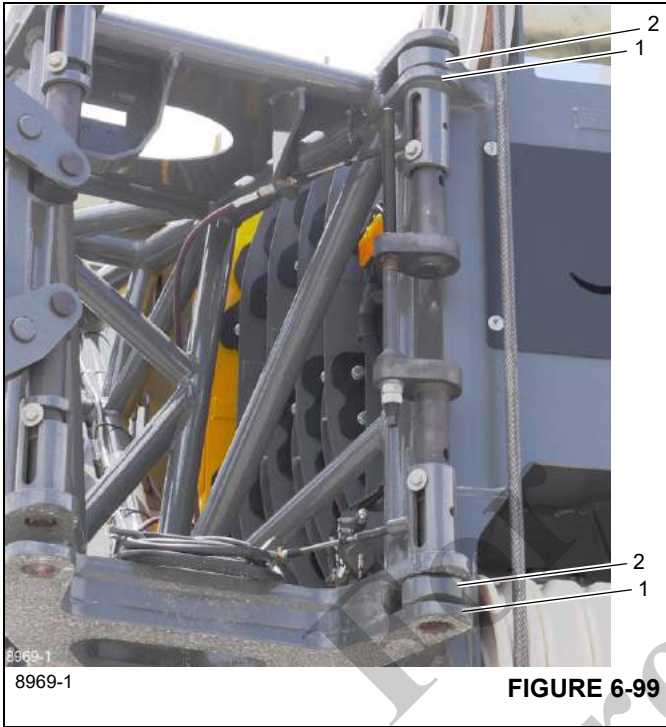

FIGURE 6-99
11. Using the tag line, swing the extension out to engage the base extension anchor fittings (1), (Figure 6-99) with the main boom attachment fittings (2), (Figure 6-99).